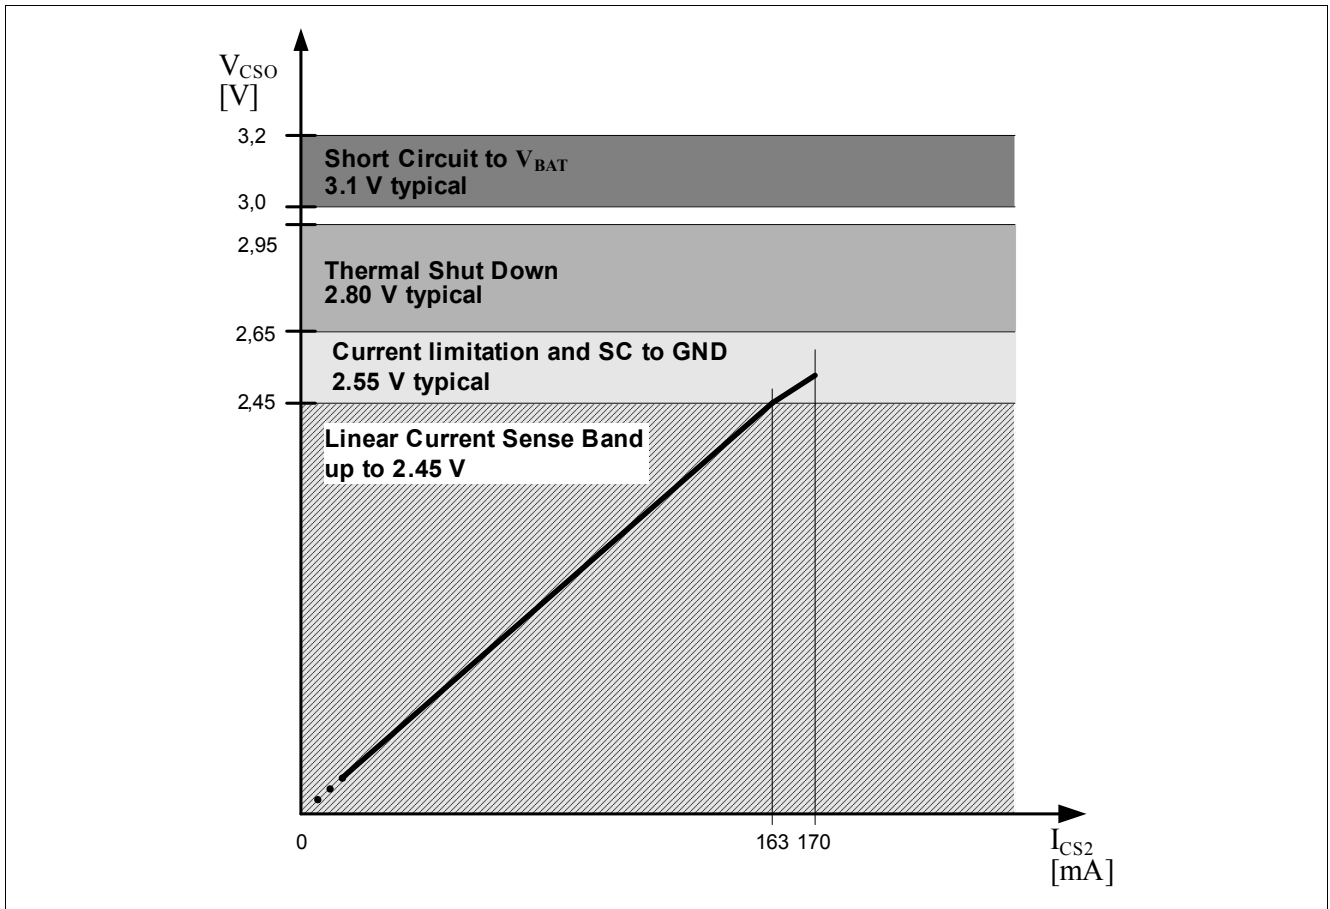

Figure 6 Output levels and functionality of the CSO output1)
**Figure 6** shows the output level at the CSO pin versus the operation or fault condition. The graph is valid for the following set up of external components: